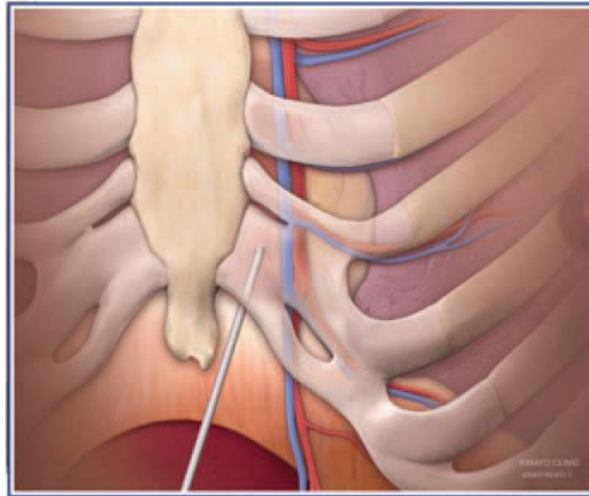

Figure 4 - Subxiphoid Approach
5. Under fluoroscopic guidance, direct the EpiAccess Needle posteriorly toward the left shoulder (Figure 4).